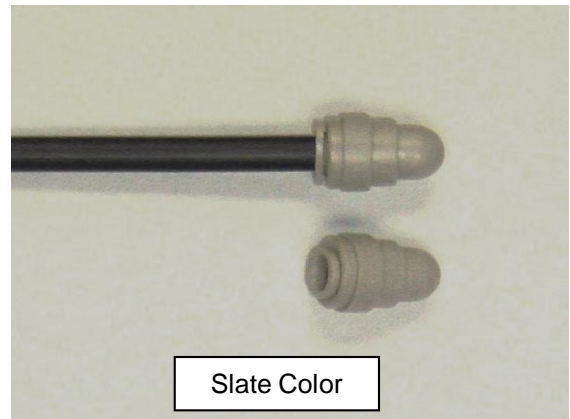

Figure 6
5.5 Tube Cap (DE08MA) Use a slate-colored DE08MA Tube Cap to seal an empty tube in both indoor and outdoor applications. Because it is a push-fit device, the Tube Cap is especially effective in the harsher outdoor applications and cannot be blown off the end of a tube if pressure is applied. Ensure the Tube Cap is firmly attached to the tube end. **See Fig. 6.**